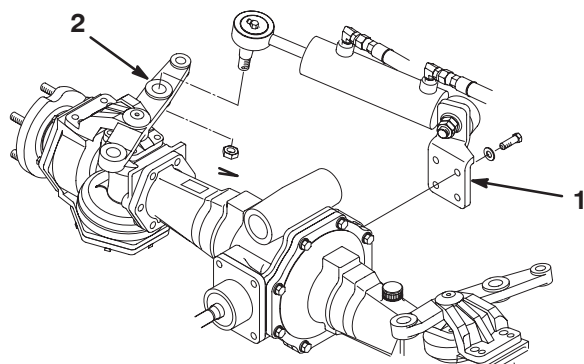

Figure 2
2. Mount cylinder support bracket to rear of axle with 4 screws (M10 x 30) screws and washers (Fig. 2). Apply Loctite 242, or equivalent, and torque screws to 48–60 ft.-lb. (65–81 N·m).
4. Secure ball joint end to steering arm with castle nut (Fig. 2) and torque it to 70–90 ft.-lb. (94–122 N·m). Install cotter pin.